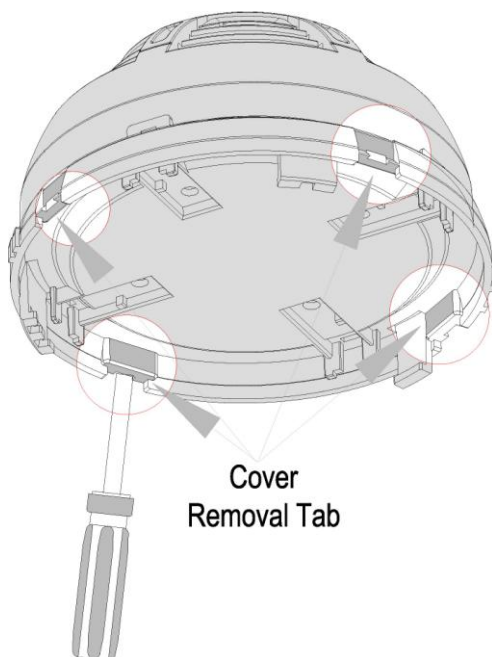

Figure 11
1. Remove the detector cover by snipping away the four sides tabs using a flat screw driver and then pulling the cover from the base. (Figure 11)